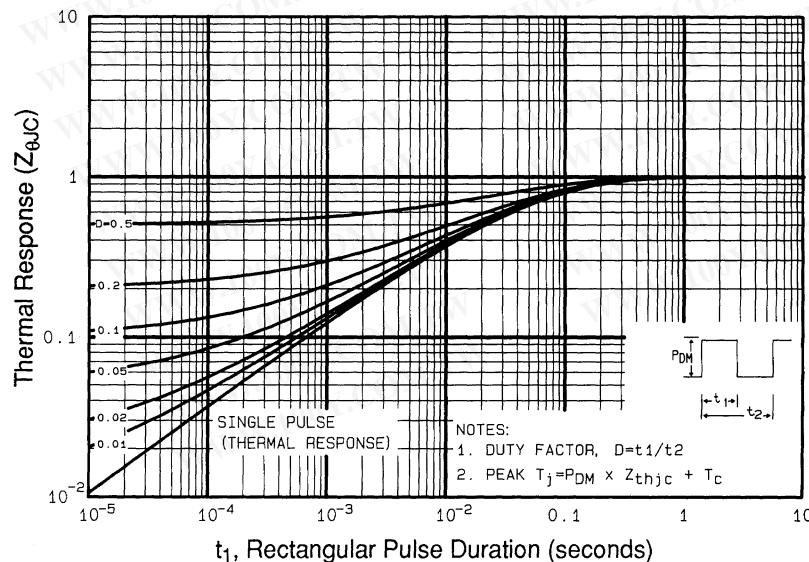

Fig 11. Maximum Effective Transient Thermal Impedance, Junction-to-Case
- ① Repetitive rating; pulse width limited by max. junction temperature. (See fig. 11)
- ② $V_{\text{DD}} = 50\text{V}$, starting $T_J = 25^\circ\text{C}$, $L = 27\text{mH}$
$R_G = 25\Omega$, $I_{AS} = 6.2\text{A}$. (See Figure 11)